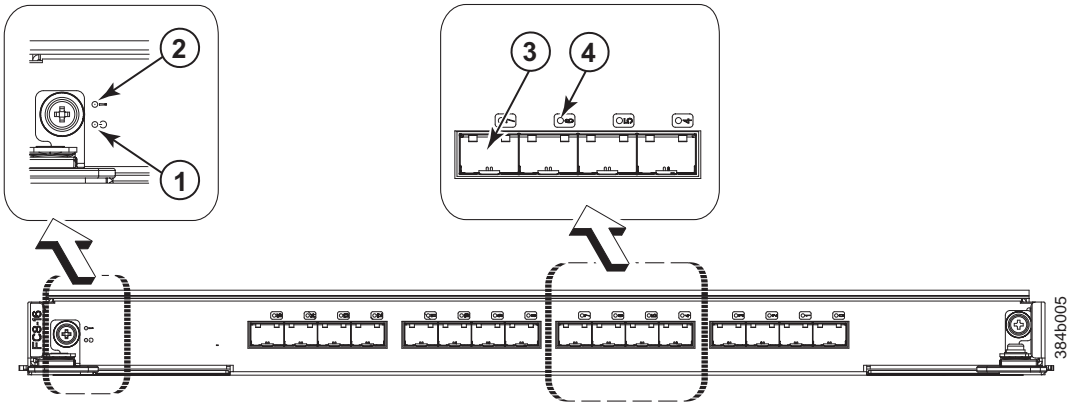

Figure 18. FC8-16 port blade
- Figure 18 on page 46 illustrates the FC8-16 port blade